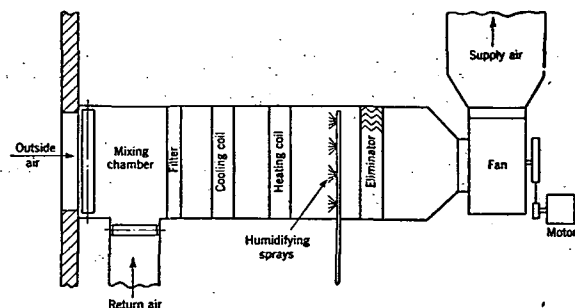

FIG. 1. CENTRAL SYSTEM WITH COILS AND SPRAYS
1. Central system with heating and cooling coils and humidifying sprays (Fig. 1). This system is very common and is used extensively for summer and winter conditioning.
6. Residential system. In Fig. 6 is shown a combination of unit equipment used for residential air conditioning. The arrangement is similar to Fig. 1, but the coil, humidifier, and fan section may be purchased as a unit. The sketch shows a system which permits the use of radiators or convectors in kitchens, baths, garages, and similar rooms.